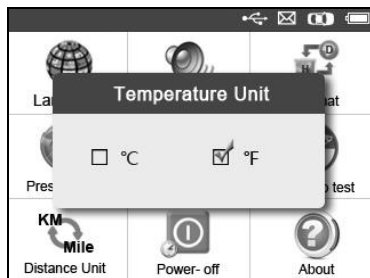

Figure 2.7
- 2) From **Temperature Unit** screen, use the **LEFT/RIGHT** scroll button to select the desired unit of temperature. (Figure 2.7)